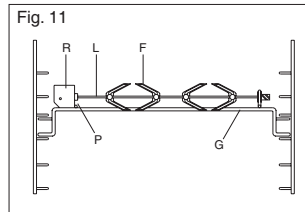

Fig. 11
- Thread the chicken or the cubes of meat for roasting on the spit L, ensuring that it is gripped safely between the two forks F and balancing it properly to avoid unnecessary strain on the transmission R (fig 11).
- Put the spit on the support G, after having introduced its opposite end in the socket P of the transmission R (fig 11)